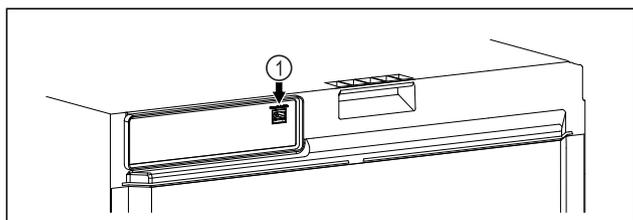

Fig. 118
- SmartModule Fig. 118 (1) has been inserted.